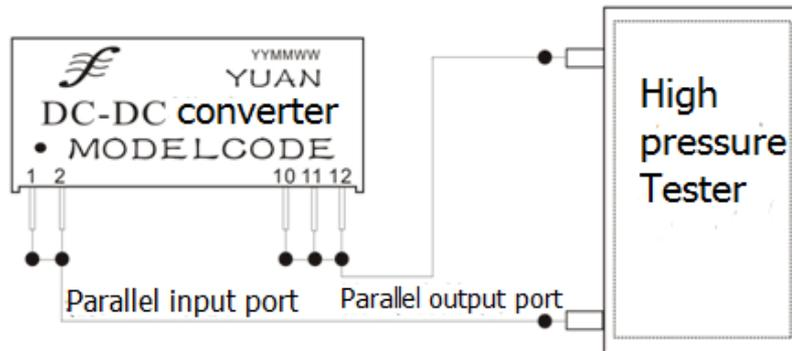

图1
- 1、 As shown in Figure 1: According to the product isolation voltage specification and set the rated high voltage value, please pay attention to personal safety when testing, beware of electric shock!!!
- 6、 The product pressure test test method as shown in Figure 1: shorting the input and output pins respectively, and adding isolation voltage between the input and output terminals (DC or AC peak, according to the isolation voltage given by the product), test 1 minute.